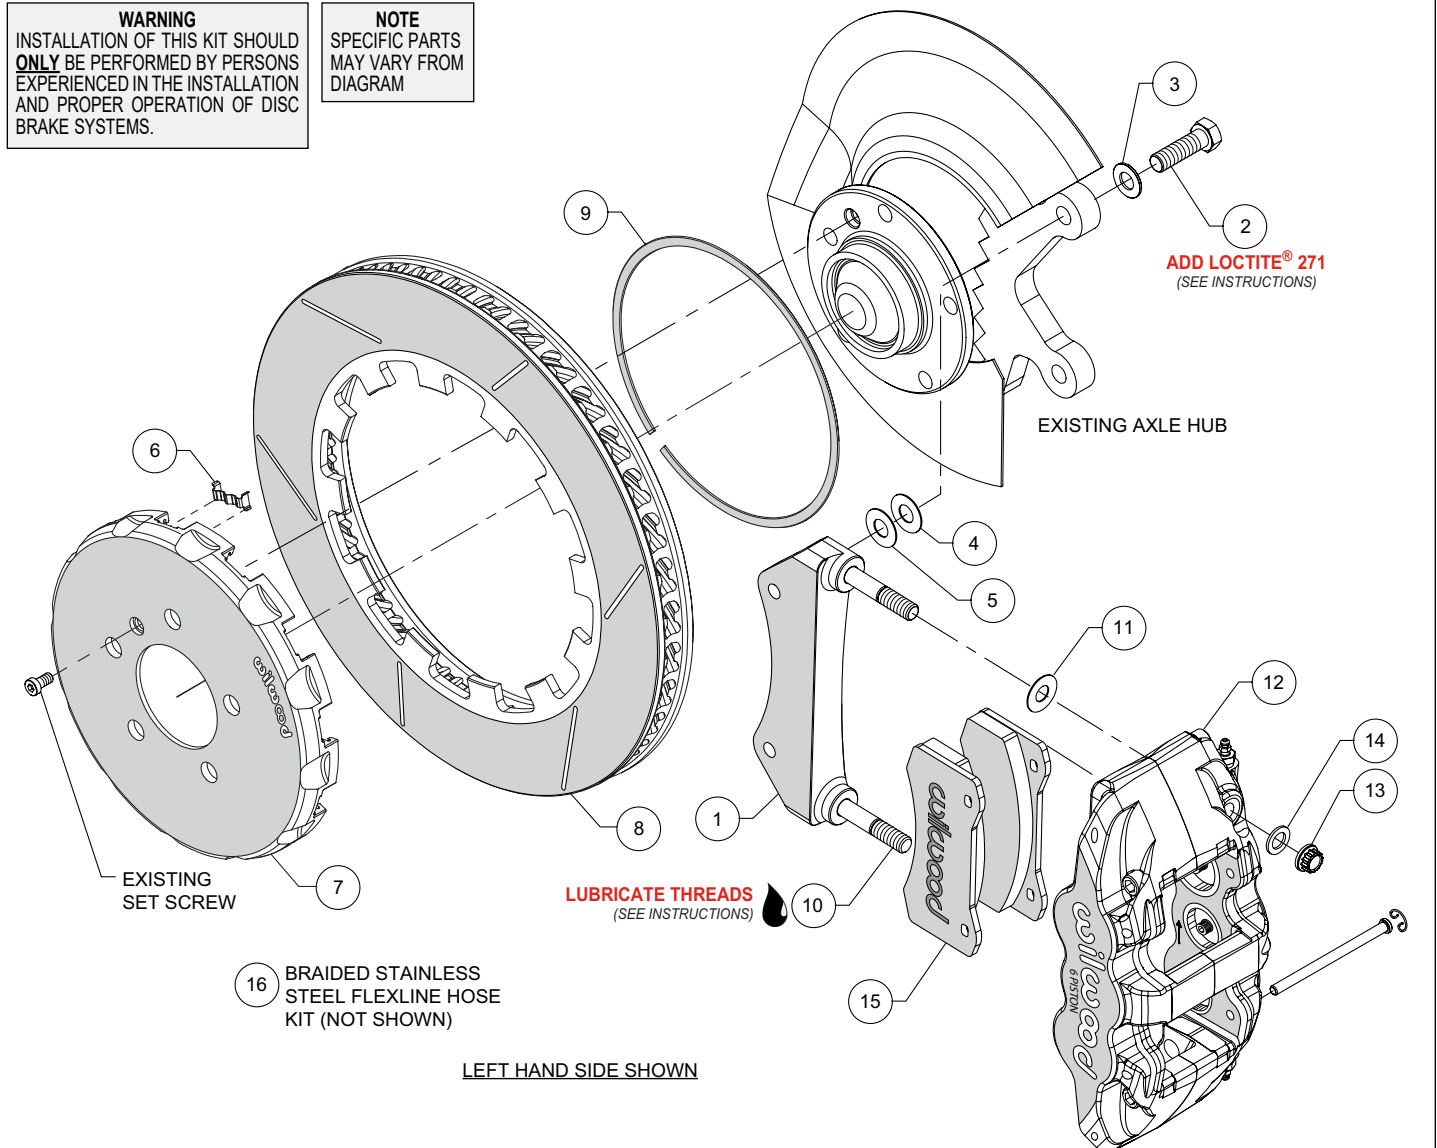

Figure 1. Typical Installation Configuration
**NOTE:** Numbers in parenthesis refer to the parts list and Figure 1 on the preceding pages.
- The caliper mount bracket (1) should initially be installed with clean, dry threads on the mounting bolts. Orient the bracket, as shown in Figure 1 and Photo 1, and install using bolts (2) and washers (3). Initially place one .033" thick shim (4) on each bolt between the bracket and upright, Figure 1. Temporarily tighten the mounting bolts. **NOTE:** *The bracket must fit squarely against the mount bosses on the upright.* Inspect for interference from casting irregularities, machining ridges, burrs, etc. Later, after the caliper alignment has been checked, the mount bolts will be secured using red *Loctite*® 271.
- Insert the dynamic mount wear clips (6) into the slots in the hat (7), Photo 2. Orient the rotor (8) as shown in Figure 1 and Photo 3, with the flush side of mount lugs facing the hat. Secure the rotor to the hat using the snap ring (9) by simultaneously pushing down on the rotor and installing the ring into the groove in the hat, as shown in Photo 4. Carefully inspect snap ring to ensure complete engagement in the groove.
- NOTE:** *This kit contains distinct right and left hand calipers that must be mounted in a specific direction, as described below.* Lubricate the caliper mounting studs (10) with lightweight oil. Initially place one .030" thick shim (11) on each stud between the caliper and the bracket, as shown in Figure 1 and Photo 6. Mount the caliper (12) onto the bracket (1) using lock nuts (13) and washers (14), Figure 1. Ensure that the caliper is mounted so the largest pistons are at the rotor exit end of the caliper, in relation to the forward rotation of the rotor. Temporarily tighten the lock nuts and view the rotor through the top opening of the caliper. The rotor should be centered in the caliper, Photo 7. If not, adjust by adding or subtracting shims (4 and/or 5) between the bracket and the upright. Always use the same amount of shims on each of the two mounting bolts. Once the caliper alignment is correct, remove the bracket mounting bolts (2) one at a time, apply red *Loctite*® 271 to the threads, and torque to 60 ft-lbs.
- Remove the caliper (12) then remove the two pad retaining pins from the caliper by carefully popping out the pin retaining clips and sliding out the pins. Insert the brake pads (15) into the caliper from the bottom, Figure 1 and Photo 8. With the friction material facing the rotor, secure the brake pads in place with the pad retaining pins and clips, Photo 9. Reinstall the caliper onto the caliper mounting bracket and temporarily tighten the lock nuts (13). Check that the top of the brake pad is flush with the outside diameter of the rotor, Photo 10. If not, adjust by adding or subtracting shims (11) between the caliper and the bracket. After the caliper pad height is set, torque the caliper lock nuts (13) to 47 ft-lb.